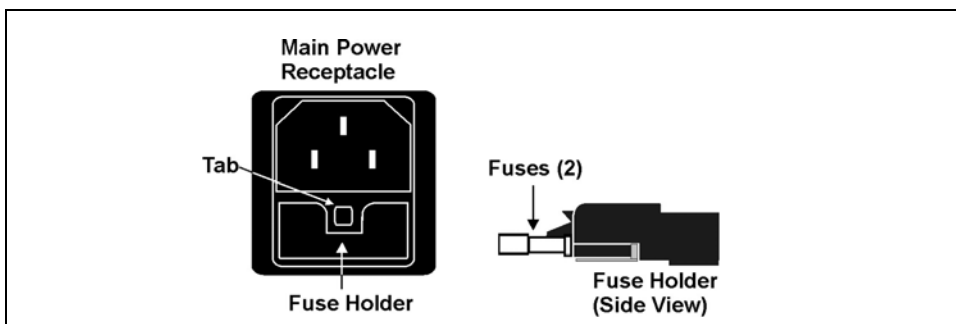

Figure 5-21. Main Power Fuse Holder
2. The fuse holder is part of the main power receptacle (see Figure 5-21) on the ICS-1000 rear panel. To remove the fuse holder, squeeze the tab on the top of the holder to release it and pull the holder straight out of its compartment.